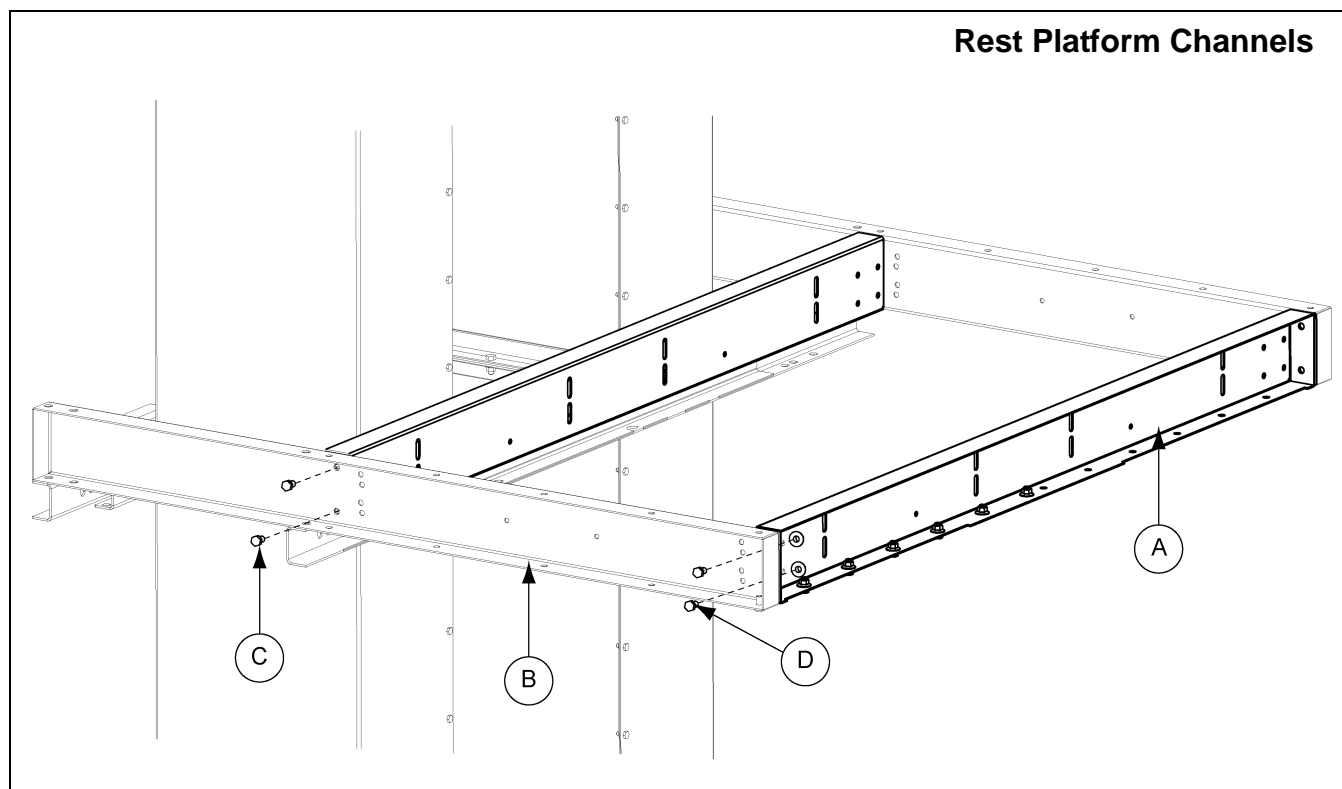

**Figure 7F** Bolt hole locations for 16"-24" rest platform mounting channels to tie angles.
1. Connect rest platform mounting channels to the rest platform tie angles using 1/2" x 1" bolts. Bolt hole locations for 16"-24" bucket elevator will be the same. (See Figure 7F.)